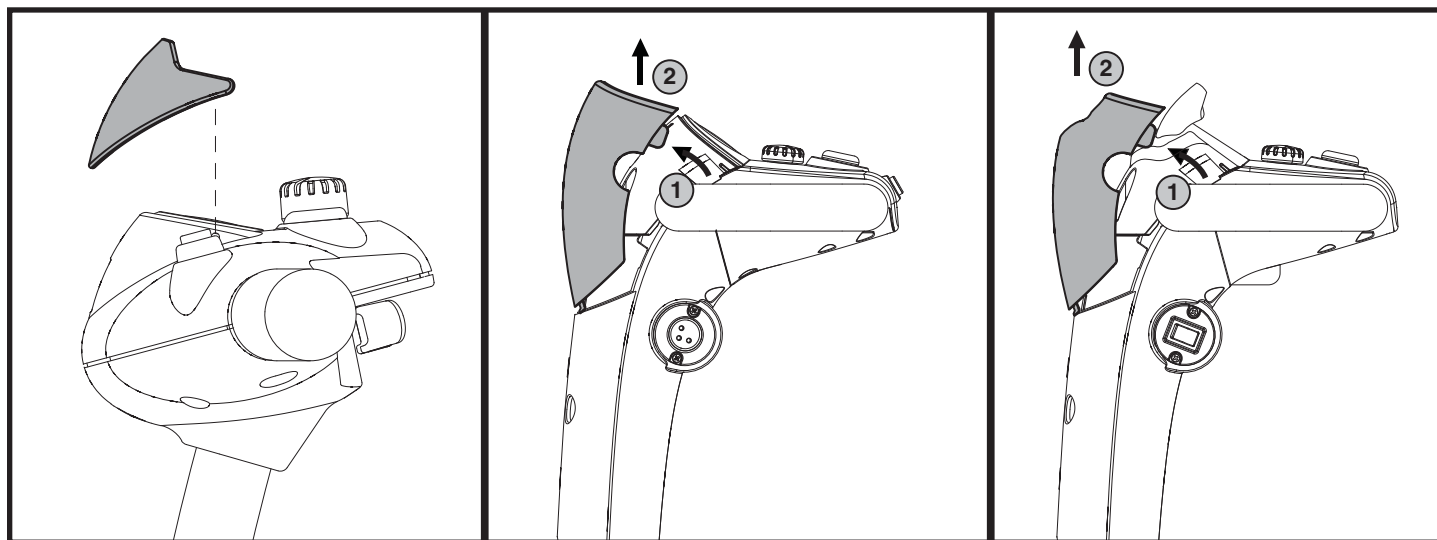

Figure 16. Tiller Console Visor
1. Gently pull the top of the visor away from the tiller console, then slowly lift it up and away from the tiller console. See **figure 16**.